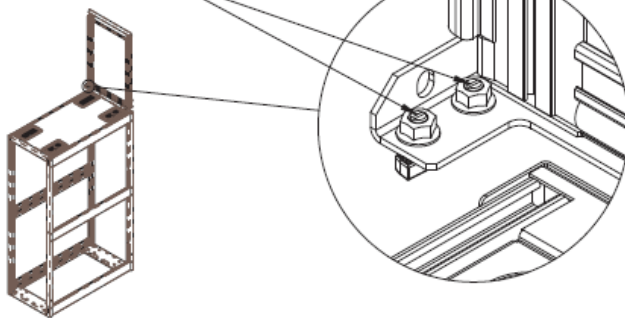

Figure 3
- A. Align 4 t-bolts to be parallel with upper frame track as shown in Figure 3.